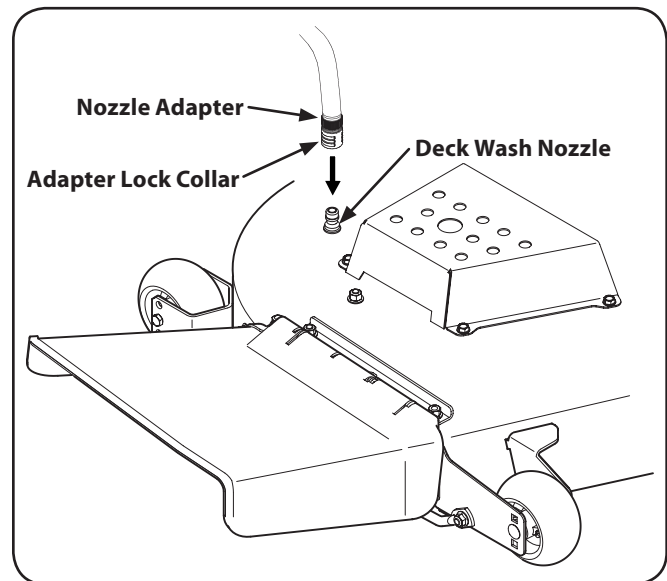

Figure 6-3
3. Attach the hose coupler to the water port on your decks surface. See Figure 6-3.